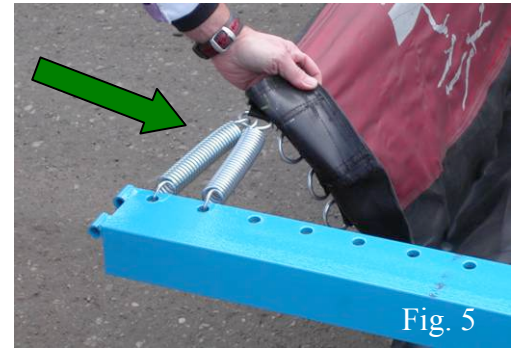

Fig. 5
- Insert the down tubes of the 10' rails into the legs. The spring holes should face the inside of the Tumbl Trak™. (See Fig. 2 & Fig. 5-next page).
- Hook two springs on the first D-ring (the silver rings that are sewn along the edges of the bed). Using the Spring Tool, attach the first and second springs to the first two spring holes respectively (See Fig. 5-next page).